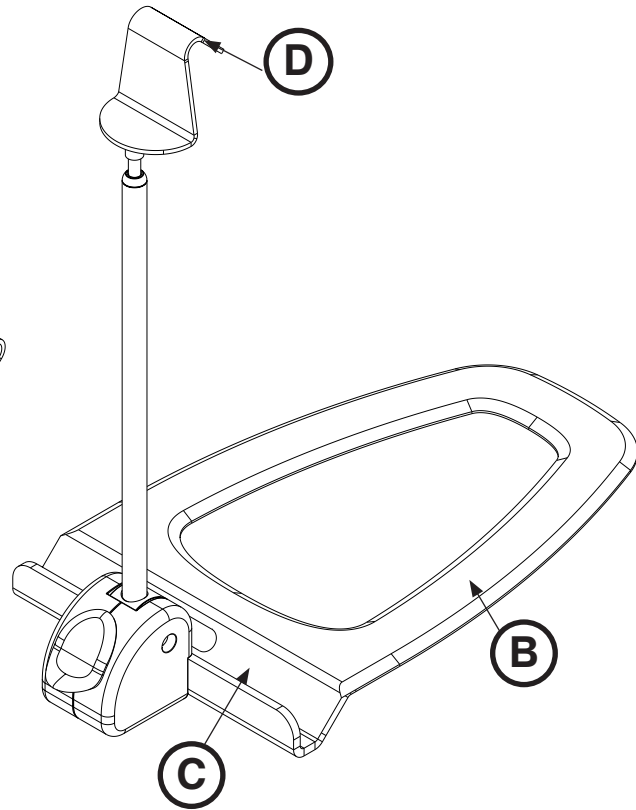

Figure 56: Lateral Cassette Holder
5. Pull up on the cassette hook (D) to adjust the height of the arm to fit snugly over the X-Ray cassette to hold the cassette in place (Figure 56).
6. Pull up on the cassette hook (D) to remove the X-Ray cassette from the lateral cassette holder (Figure 56).